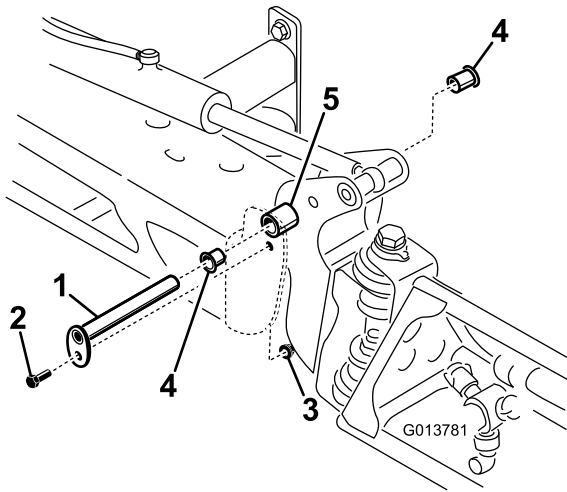

Figure 3
- Remove the bolt and nut securing the pivot pin to the right-wing-boom assembly (Figure 3).
- Remove the pivot pin (Figure 3).